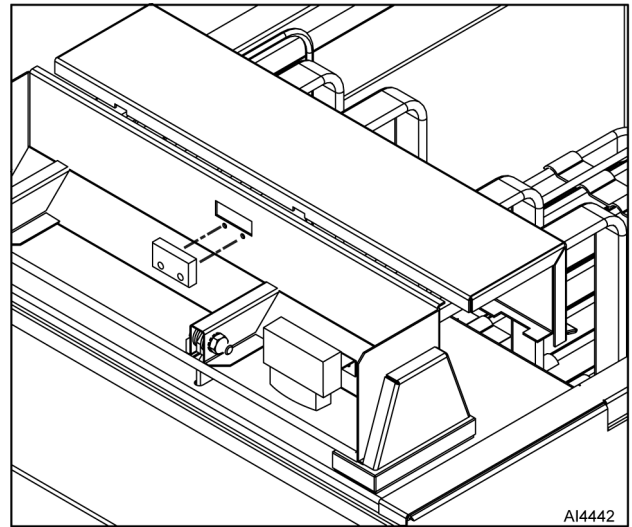

Fig. 21
- Remove tilt switch (Fig. 21) from element head assembly.